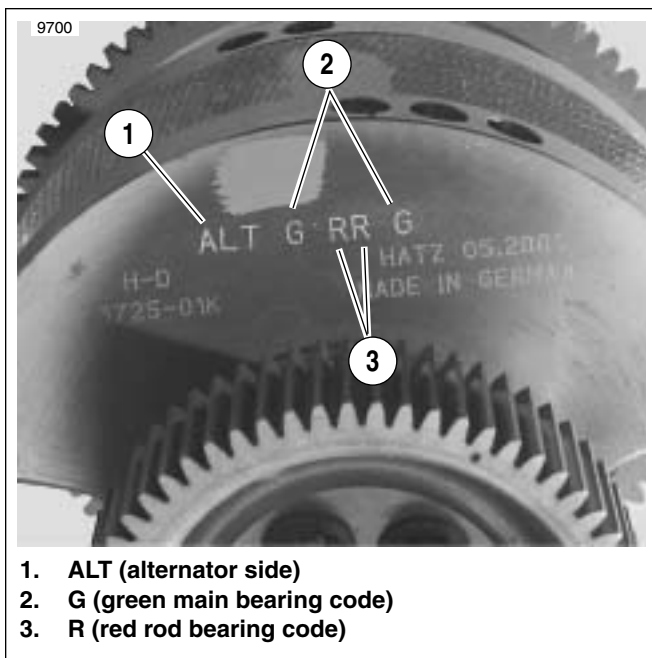

**Figure 3-228. Lubricate Bearings**
- 38. See Figure 3-228. Install rod bearings and lubricate bearing surface with Harley-Davidson Motorcycle Oil 20W50. In addition, a thin film of Lubriplate No. 105 Motor Assembly Grease (NAPA Part No. 765-2651) is recommended.